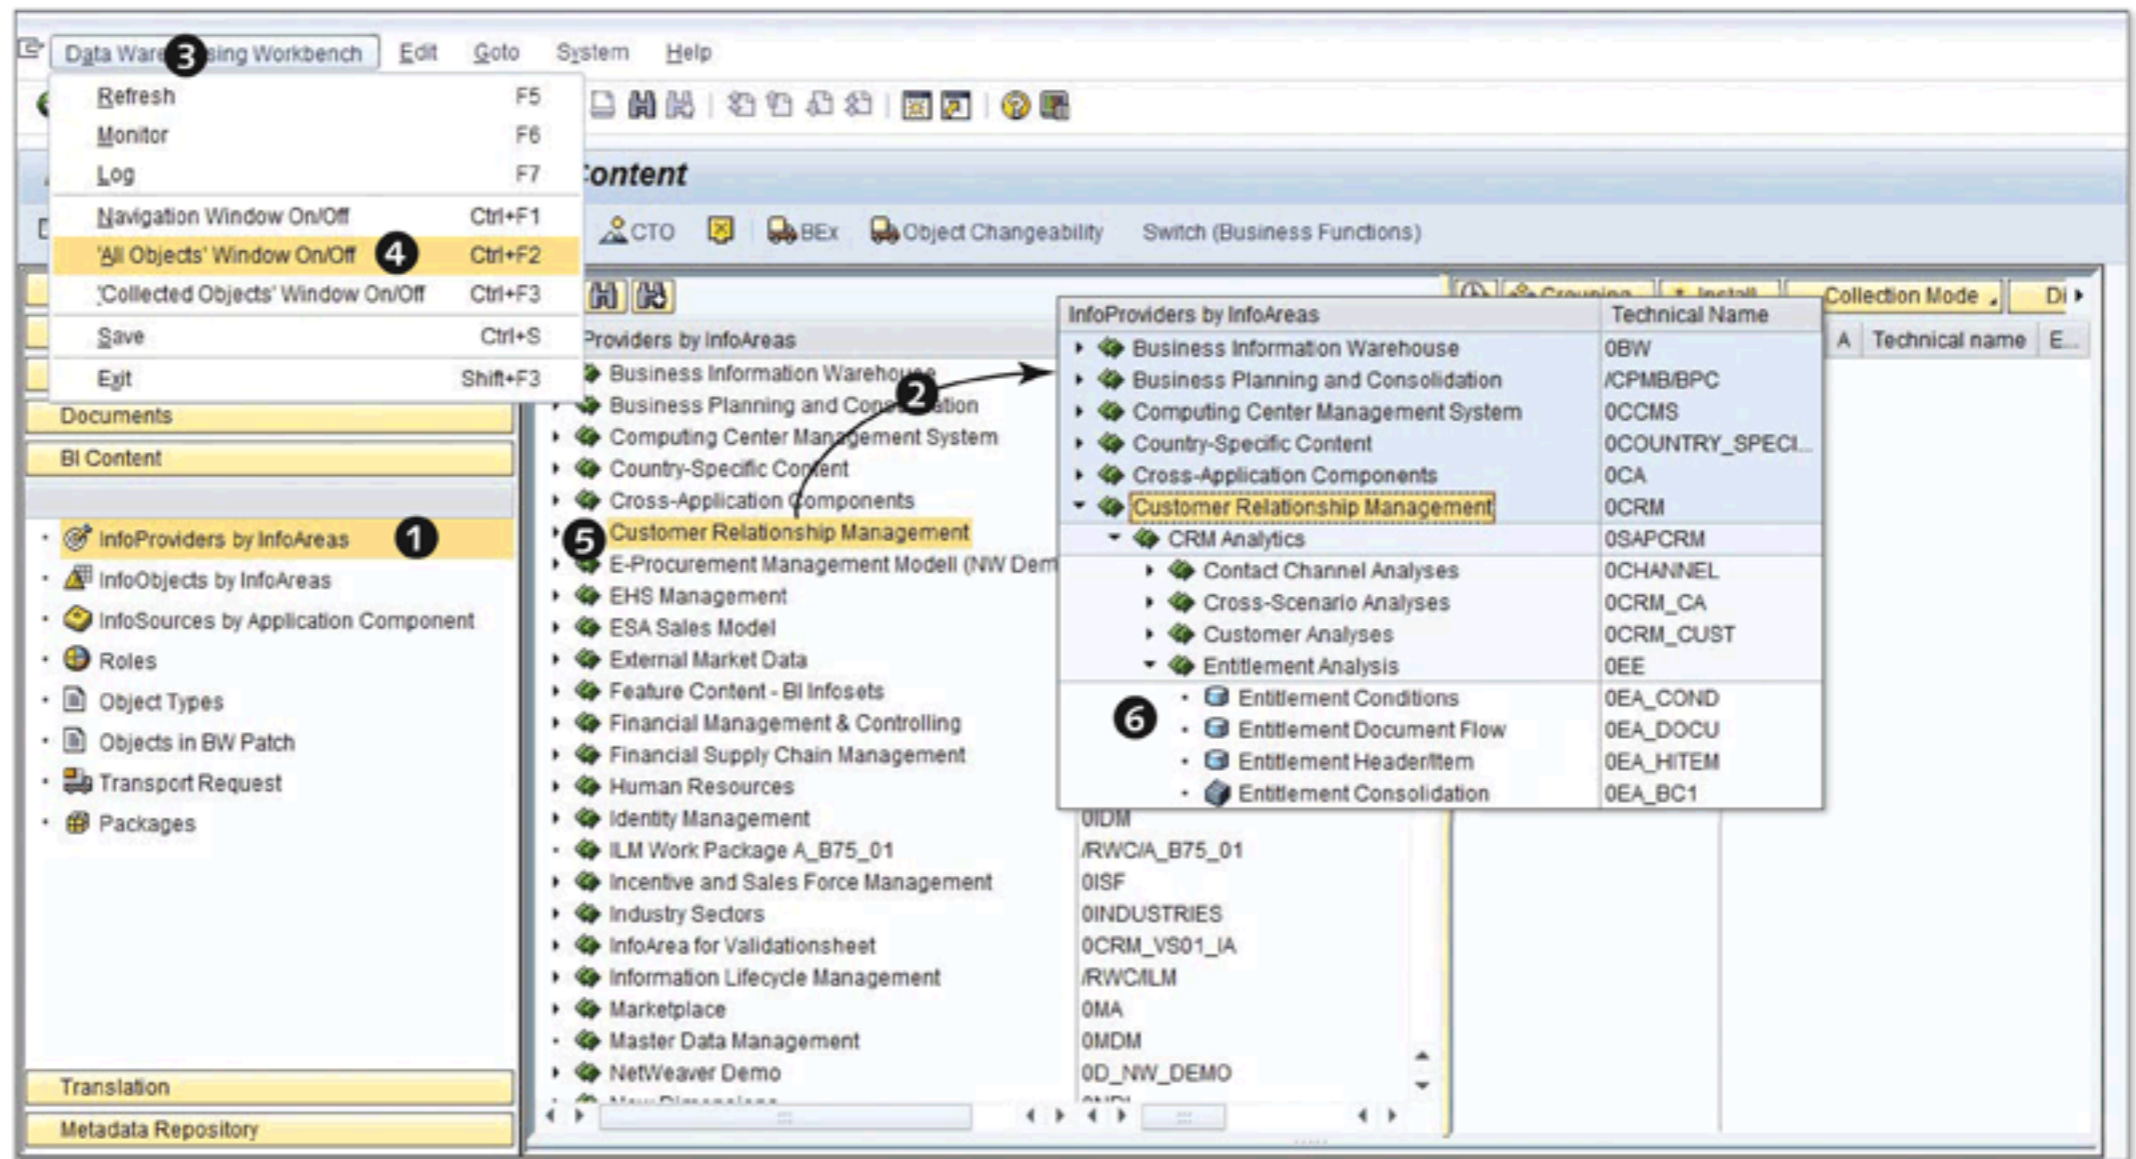

Figure 2.24 Selecting InfoProviders by InfoArea
When you click on INFOPROVIDERS BY INFOAREA, the screen shown in Figure 2.24 appears.
As shown in ❶ of Figure 2.24, the selected option is now highlighted. On the right side, one more panel—INFOPROVIDER BY INFOAREAS—opens up (❷). If you're unable to view this panel, click on the DATA WAREHOUSING WORKBENCH menu, and select ALL OBJECTS WINDOW ON/OFF, as shown in ❸ and ❹.
All of the InfoAreas offered by Business Content are listed in this panel. Expand CUSTOMER RELATIONSHIP MANAGEMENT (oCRM) (5 of Figure 2.24), and you can see an expanded tree structure displaying InfoAreas and data targets (6). (InfoAreas and data targets are explained in more detail in subsequent chapters.)